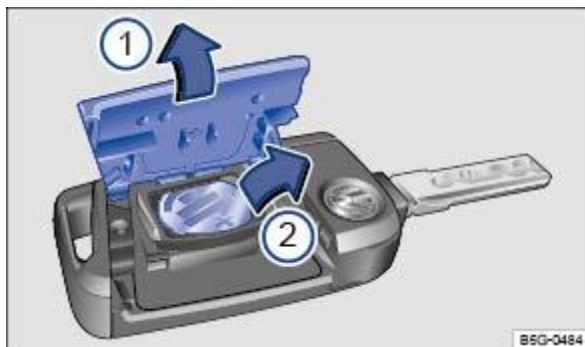

Fig. 51 Vehicle key: replacing the button cell.
Key to ⇒ Fig. 51 :
Lever off the cover ⇒ Fig. 51 ① ⇒ ⚠ .
Lever the button cell out of the battery compartment ⇒ Fig. 51 ② .
Press the cover onto the housing ⇒ Fig. 51 ① .